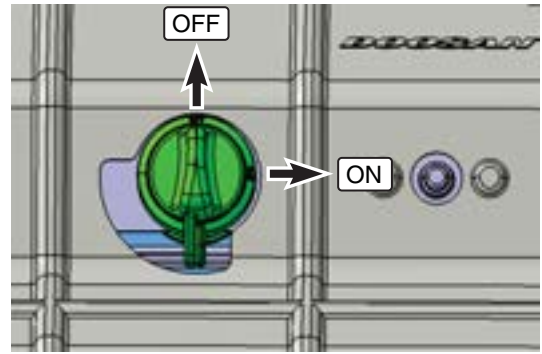

Figure 13
13. Turn battery disconnect switch to "OFF" position (Figure 13).